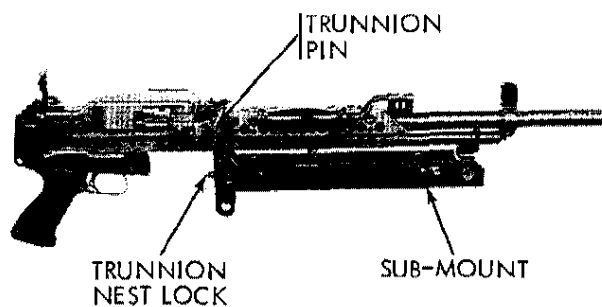

FIGURE 6. SUBMOUNT ASSEMBLY -
(1) Description. The submount assembly (fig. 6) is required when mounting the Stoner machinegun on the M2 mount. The elevating and traversing mechanism and the pintle are attached to the submount assembly.
(2) To remove the weapon from the submount, depress the trunnion rest lock (fig. 6) and push forward and upward on the weapon to disengage the weapon from the submount lugs.